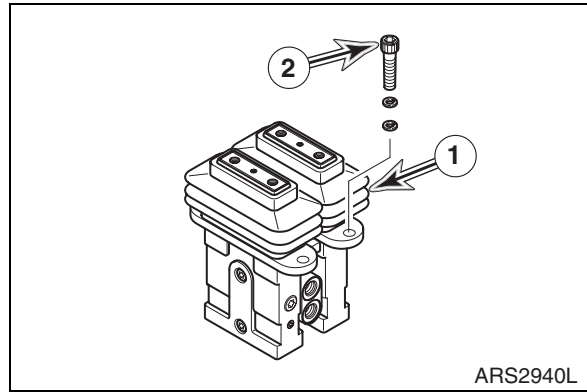

Figure 49
1. Position pedal valve (1, Figure 49) on cabin floor plate and install four bolts and washers (2).